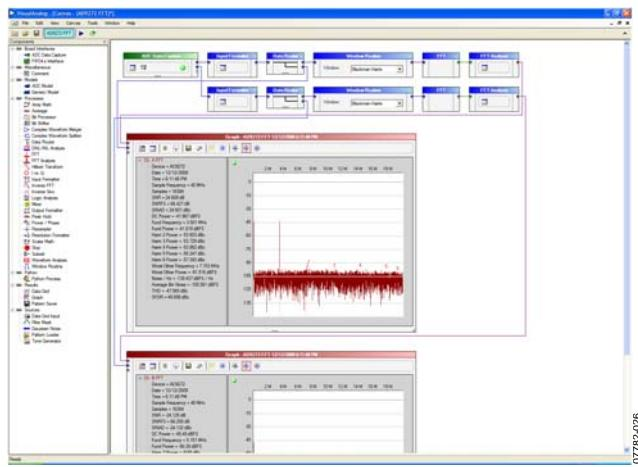
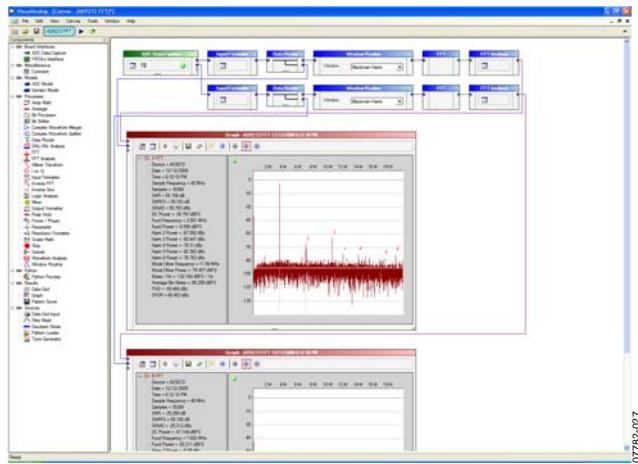

Figure 15. VisualAnalog, Graph Window
Figure 16. VisualAnalog, Formatted FFT Plot
1. Adjust the amplitude of the input signal so that the fundamental is at the desired level. (Examine the **Fund Power** reading in the left panel of the **VisualAnalog FFT** window.) If the gain pin voltage is too low, it is not possible to reach full scale without distortion. Use a higher gain setting or a lower input level to avoid distortion. This also depends on the PGA gain setting, which can be 30 dB, 27 dB, 24 dB, or 21 dB. See Figure 15 and Figure 16.